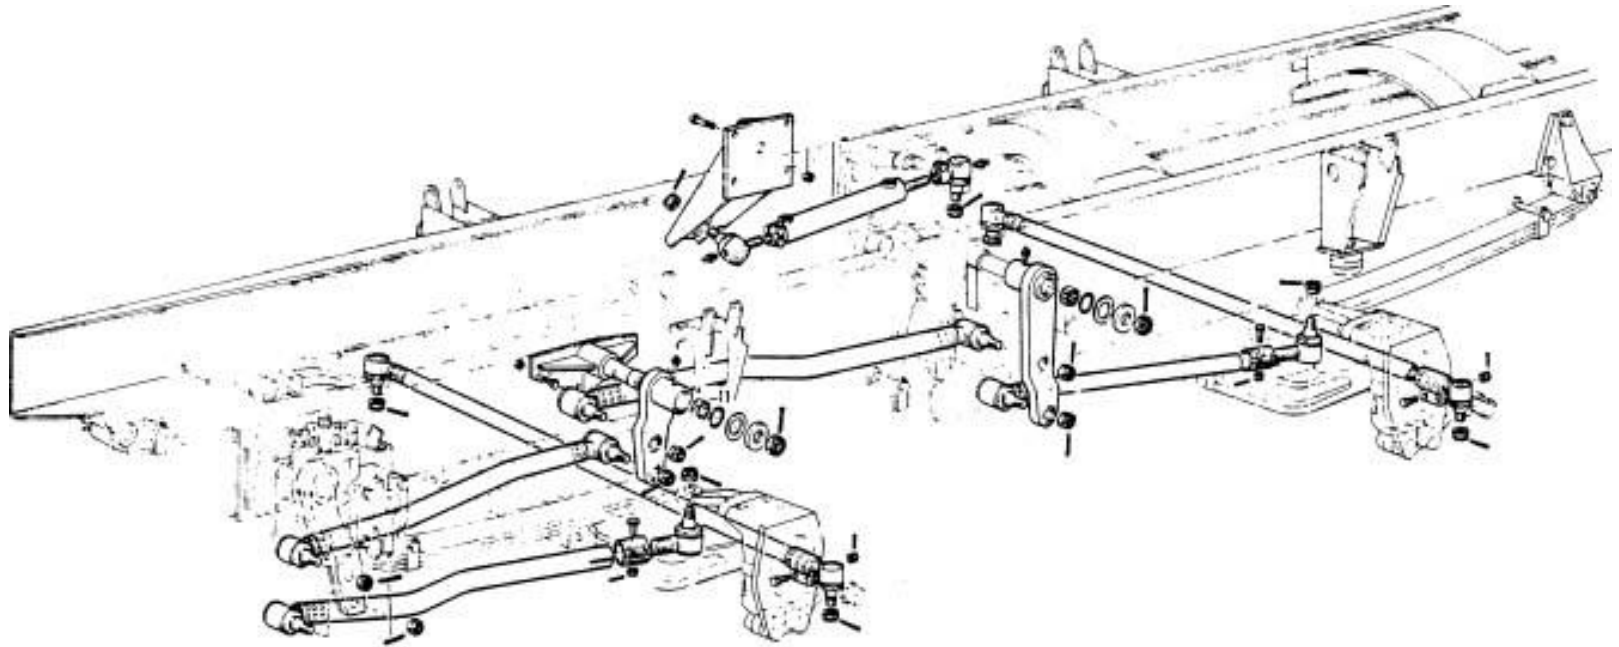

Fig. 7-12a Twin steering pull rod system
- **II. Adjustment for Twin Steering Primary and Main Shaft Straight-through Is Shown in Fig. 7-12a**
- ① Put the primary shaft wheel at the straight-through position using the wheel straight through alignment gauge , and rotate the steering gear input shaft to the upper end surface reticule, facing right ahead (at this moment the steering gear is in the middle position), and then adjust the length of the steering drag link to enable both ends to connect with the steering rocker and steering knuckle arm respectively.
- ② The steering of the main shaft wheel is controlled by one set of steering drag link mechanism, which consists of three drag links and two intermediate rocker supports. The length adjustment of the first and second drag links should ensure two intermediate rockers to be perpendicular to the ground. Use again the front shaft wheel straight-through alignment gauge to make the two ends connect with the steering rocker and the main shaft steering knuckle arm respectively. When adjusting the steering drag link mechanism of the main shaft, the primary shaft wheel must be in the straight-through position and remain unchanged.